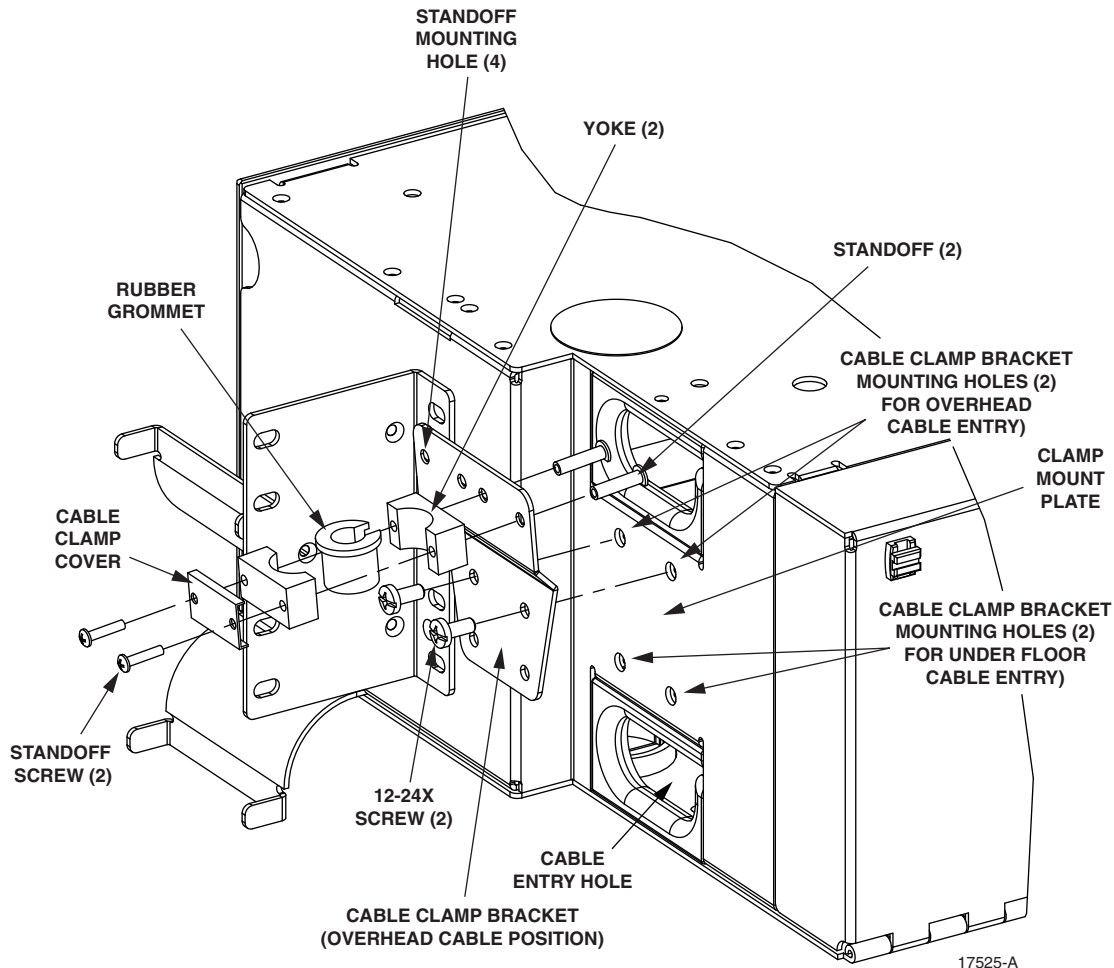
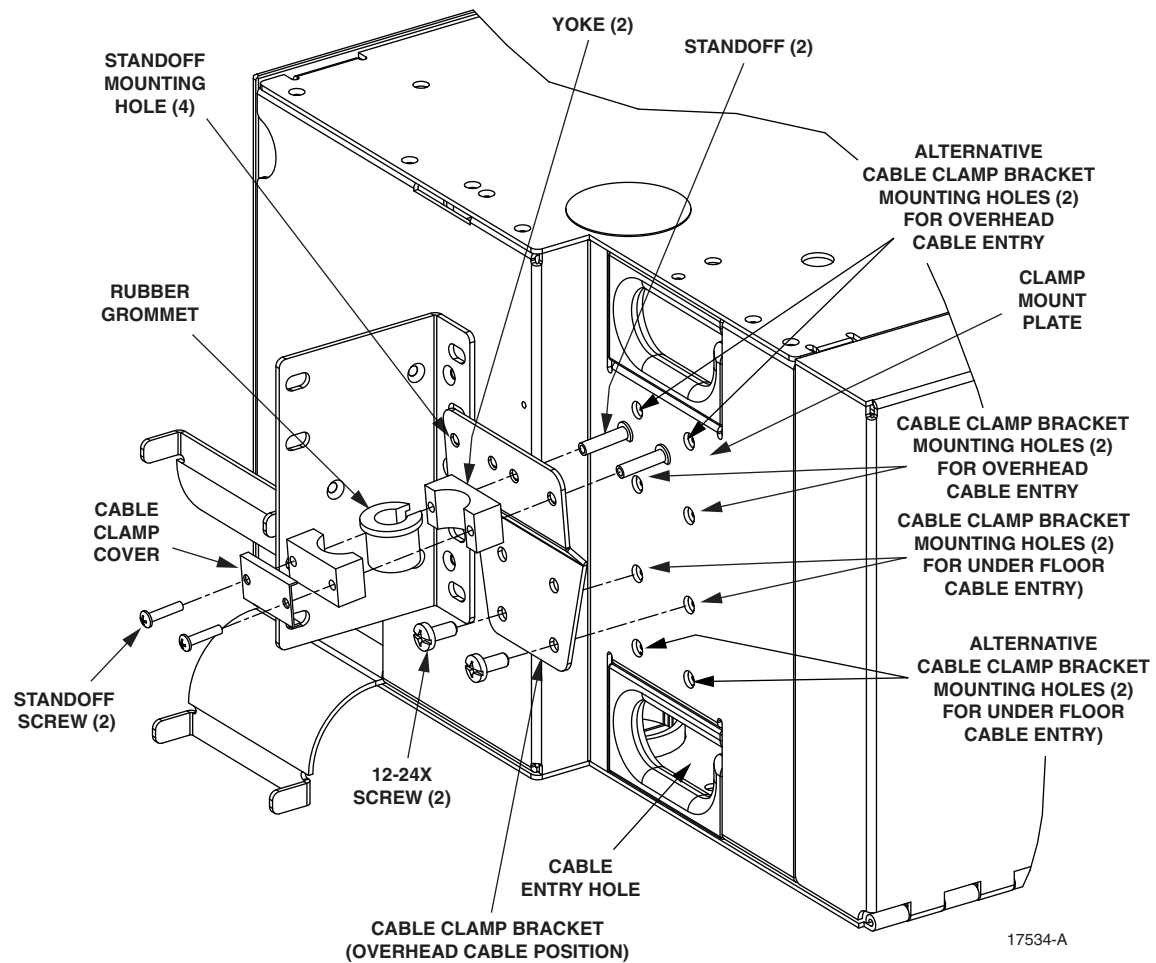

Figure 10. Installing a Cable Clamp (7-Inch Module)
Figure 11. Installing a Cable Clamp (9-Inch Module)
To install the cable clamp, use the following procedure. Refer to Figure 10 for the 7-inch panel and Figure 11 for the 9-inch panel.
5. Working on the outside of the panel, where the cable bracket was installed, stack the cable clamp components on the standoffs, as shown in Figure 10 and Figure 11, with the cable secured within the rubber grommet. Position the cable so that the breakout point shown in Figure 8 and Figure 9 occurs just beyond the rubber grommet.
6. Secure the cable clamp components to the standoffs using standoff screws, as shown in Figure 10 and Figure 11.